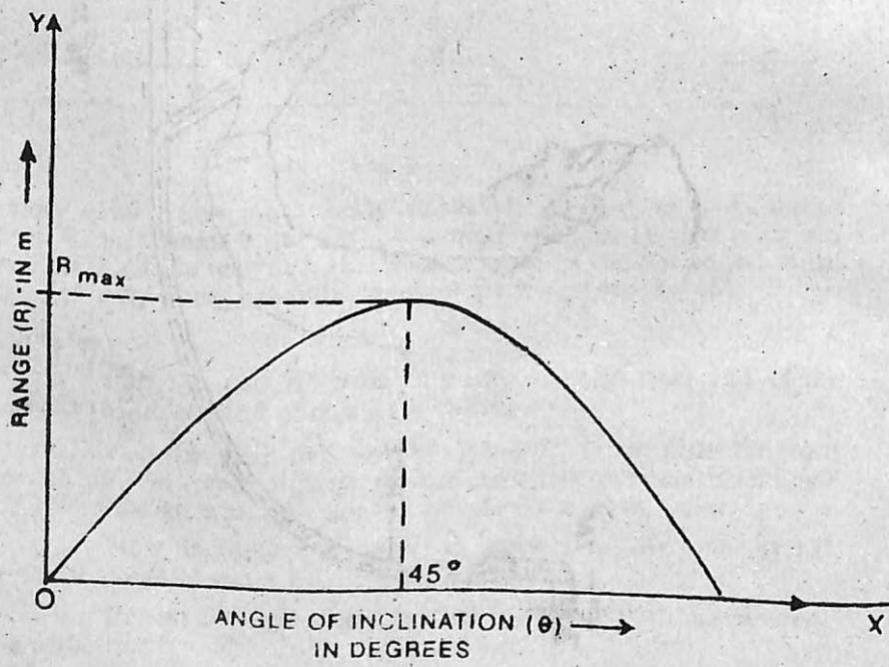

Fig. 20.3.
The graph of angle of inclination ( $\theta$ ) of the pipe against the range of water jet (R) is of the type as shown in Fig. 20.3